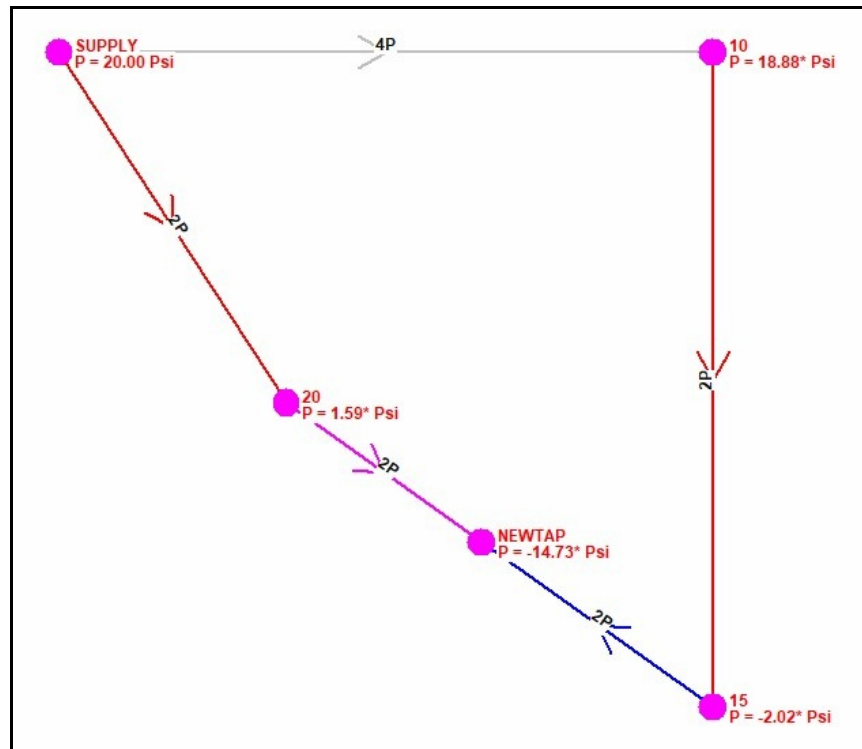

Figure 5
- Click the *Apply Range Colors* command button. The colors of the displayed pipes will be updated to reflect the range color values, as seen in Figure 5.